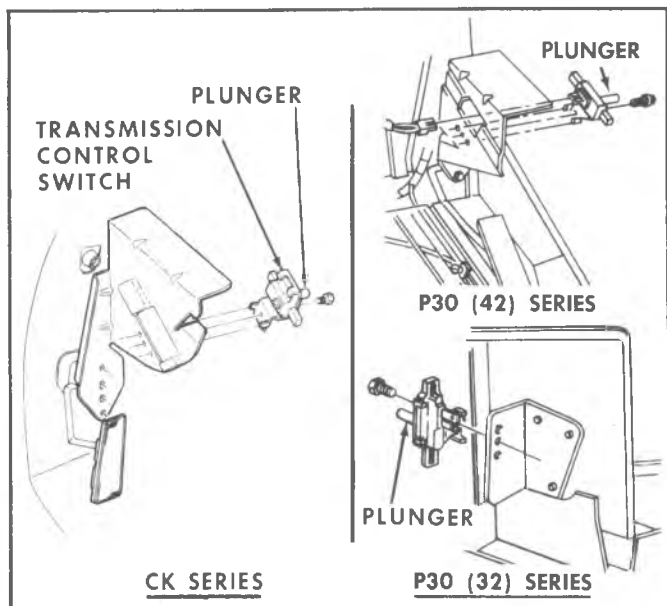

Fig. 1L—Detent Downshift Switch
1. Install switch as shown in Figure 1L.